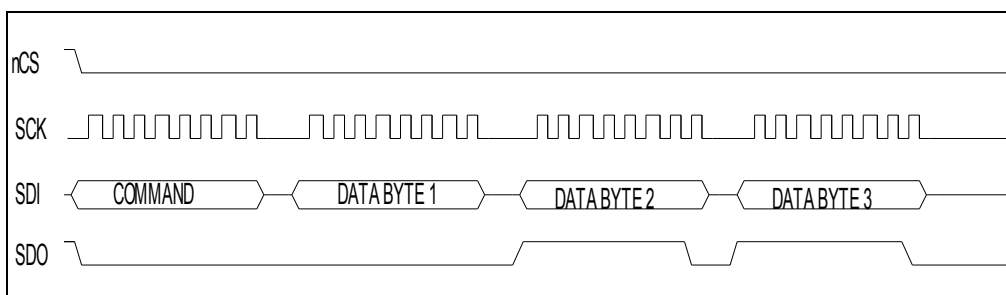

Figure 6. Sequential Byte Write Timing
The transmit register may be continuously accessed by holding the nCS pin (3) 'Low' for the duration of the data stream. On the first falling edge of nCS the register command should be issued as normal. Sequential byte writes to the register afterwards will load the transmit register directly without having to re-issue the command byte. The SDO pin (4) may be used as a "Transmit Register Empty" flag to write the next byte. Figure 6 shows the timing sequence.